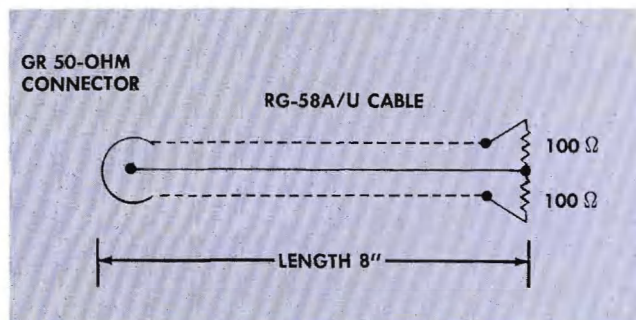
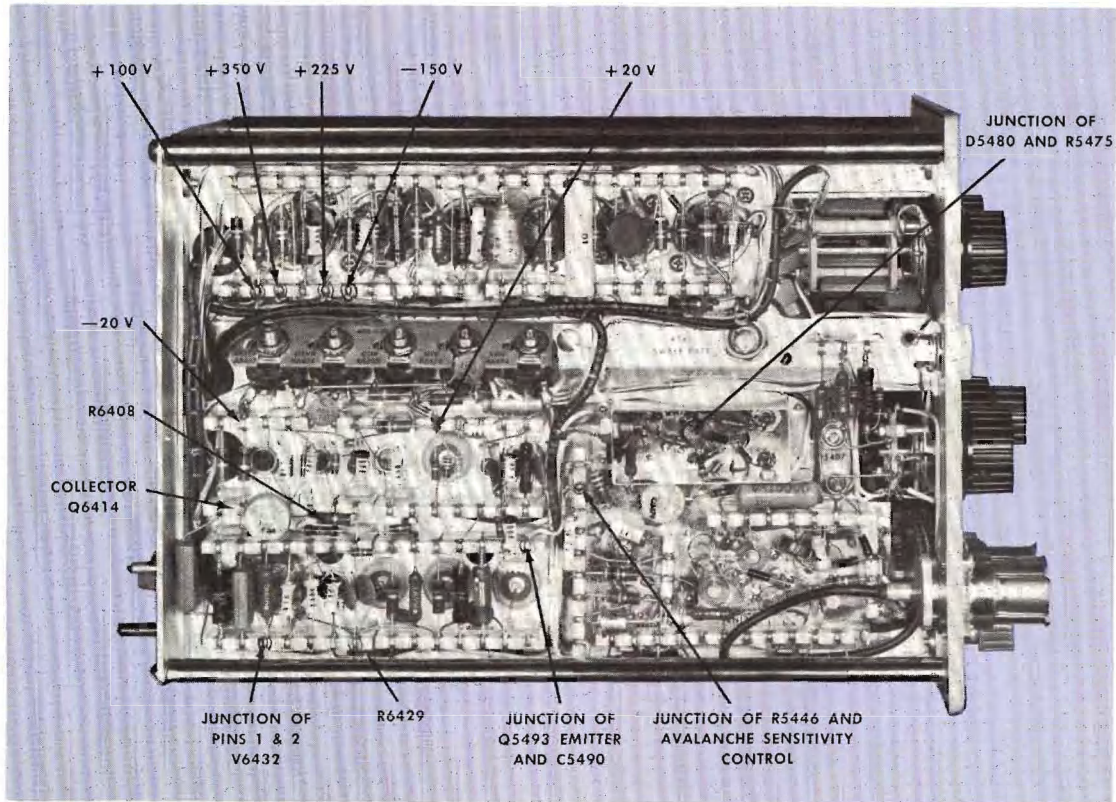
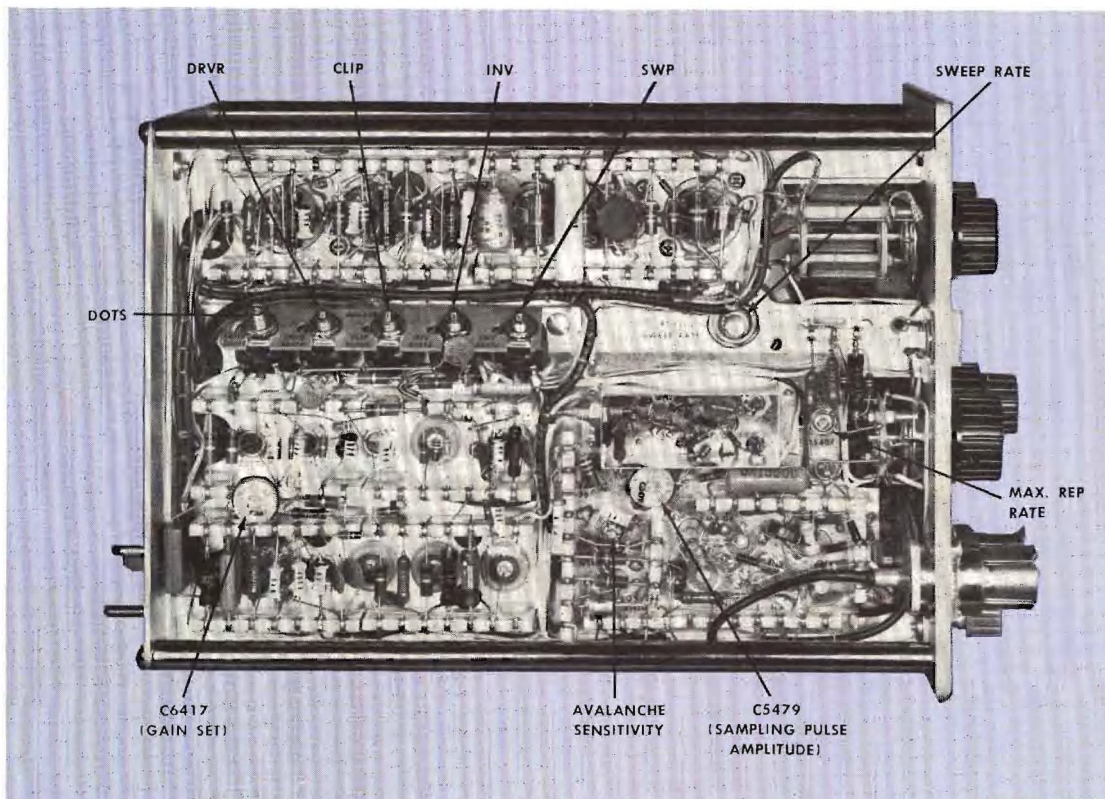

Fig. 6-2. 50 Ω terminated cable circuit.
Fig. 6-3. Location of the Type N Unit test points.
Fig. 6-4. Location of the Type N Unit internal adjustments.
Connect the 50-ohm termination cable shown in Fig. 6-2 to the SIGNAL INPUT connector on the Type N Unit. Set the TRIGGER SENSITIVITY control to the FREE RUN position. Turn the oscilloscope on and allow it to warm up for at least one minute before making any measurements.
The location of each test point and internal adjustment is shown in Figures 6-3 and 6-4.
- (8) The following 50 Ω attenuator pads are required:
- (9) One terminated pigtail (50 Ω impedance) made up of following parts; one 8-inch RG-58A/U cable; one GR (General-Radio) 50-ohm connector; two 100 Ω $\frac{1}{2}$ -w resistors. Assemble according to circuit shown in Fig. 6-2.
- (10) Two test leads, 18" long.
- (11) Capacitor, .001 μ f.
- (12) Insulated alignment tool, 1 $\frac{1}{2}$ -inch shank, Tektronix Part No. 003-000 or equivalent.
lead from the CAL. OUTPUT connector through the .001- μ f capacitor to the Type N TRIGGER INPUT connector. (Alternatively, you can connect a regenerated trigger from the Type 110 or a pretrigger from the Type 111, or equivalent, through a 10-nsec cable to the REGENERATED TRIGGER INPUT connector.) Connect the pigtail, shown in Fig. 6-2, to the SIGNAL INPUT connector on the Type N to provide a working load. Rotate the TRIGGER SENSITIVITY control fully clockwise. Connect the oscilloscope to a line source of 105 to 125 VAC if the oscilloscope is wired for 117-volt operation (210-250 VAC if wired for 234-volt operation). Turn on the oscilloscope power switch. After allowing time for the delay relay to energize, connect the dc voltmeter successively to the -150 -, $+100$ -, $+225$ -, and $+350$ -volt test points shown in Fig. 6-3. Be sure your voltmeter is accurate. The readings should be as follows: -146.2 volts ($\pm 2\%$), $+98.8$ volts ($\pm 3\%$), $+224$ volts ($\pm 3\%$), and $+349.6$ volts ($\pm 3\%$) respectively. Disconnect the voltmeter leads.
Rotate the TRIGGER SENSITIVITY control fully counterclockwise. Connect the dc voltmeter to the $+20$ - and -20 -volt test points shown in Fig. 6-3. The voltage reading should be $+20$ volts (± 2 volts) and -20 volts (± 2 volts), respectively. Disconnect the voltmeter.
Set the oscilloscope trigger controls so the internal sweep circuits are not running. Use the test oscilloscope and probe to measure the amount of ripple present at the 20-volt test points shown in Fig. 6-3. Typical ripple amplitude is less than 10 mv. Disconnect the probe.
Rotate the TRIGGER SENSITIVITY control fully clockwise. Check to see that the trace is displayed on the screen. Connect the probe of the test oscilloscope to the junction of pins 1 and 2, V6432 (Fig. 6-3). Adjust the test oscilloscope triggering controls for a stable display. Adjust the REP. RATE LIMIT adjustment R5407 (Fig. 6-4) for an output frequency of 120 kc (12 cycles displayed on the 10-centimeter graticule). Then turn the adjustment counterclockwise until the output frequency is 100 kc (one cycle per centimeter). Disconnect the probe.